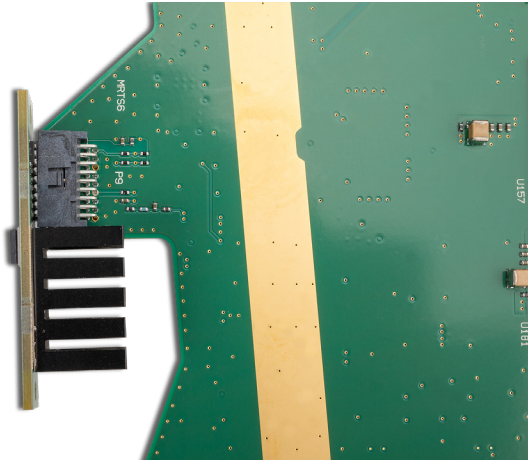

Figure 5a. Close-up view of a new RF front end using Keysight ASIC technology
- a single miniature RF front end (Figure 5a)